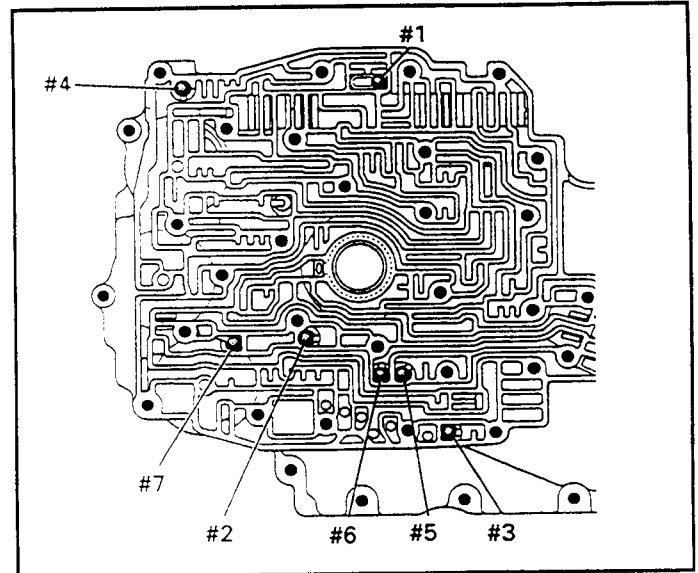

Figure 60
48. Remove the seven checkballs from the pockets in the channel plate as shown in Figure 60.
49. Notice that one of the pockets does not contain a checkball (See Figure 60).